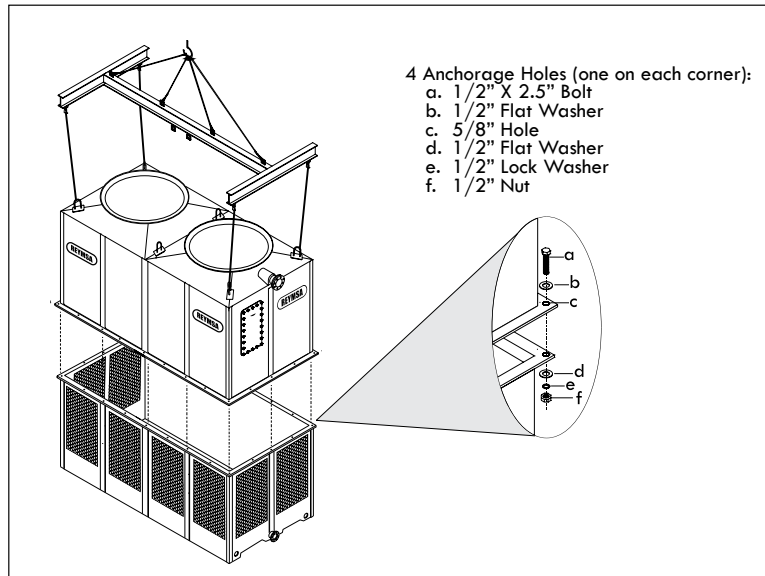

Figure A-57: Body section assemble for a Modular Tower (RTM-B or RTPM-B)
J. Assemble body section #1 (for RTM-B or RTPM-B) with the basin section #1, making sure that the bolt holes on body section #1 are aligned with the perforations on basin section #1, then bolt down and secure the horizontal flanges with the stainless steel nut and bolt sets supplied by REYMSA (see Figure A-57 for reference).